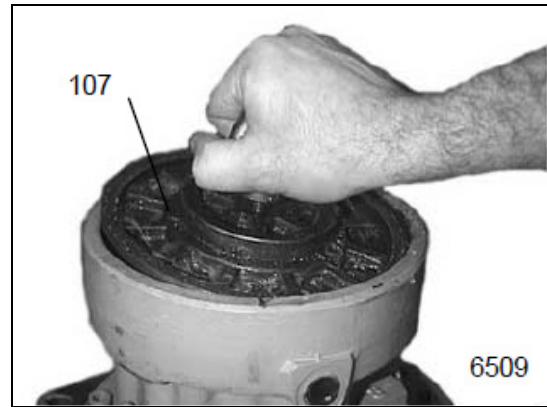

Figure 3-59
29. Remove the brake piston. See Figure 3-59.